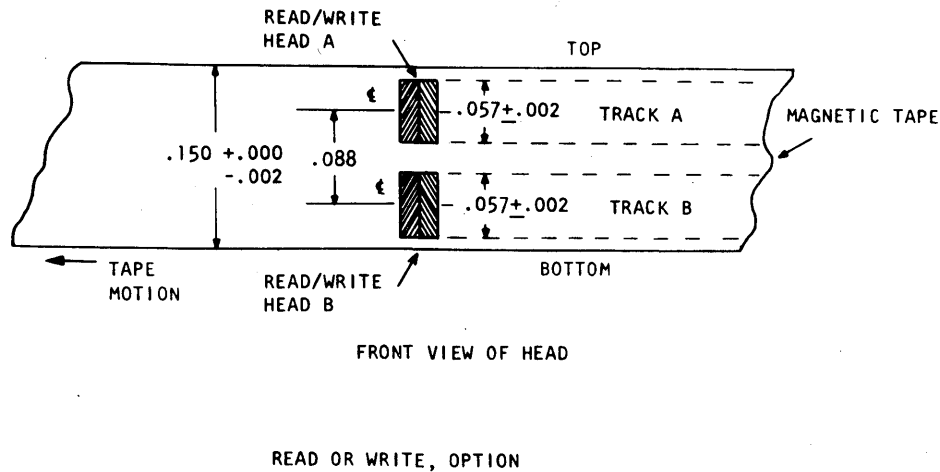

Figure 16. Magnetic Tape Track Configuration
**Tape Heads - Single Gap, Two Track, Read/Write.** - The track configuration for this tape head is shown on Figure 16. The head is in contact with the tape at all times while the cover is closed. The tape guides are located on either side of the head to accurately position tape during movement in both low and high speed operation. Characteristics of the facing material of